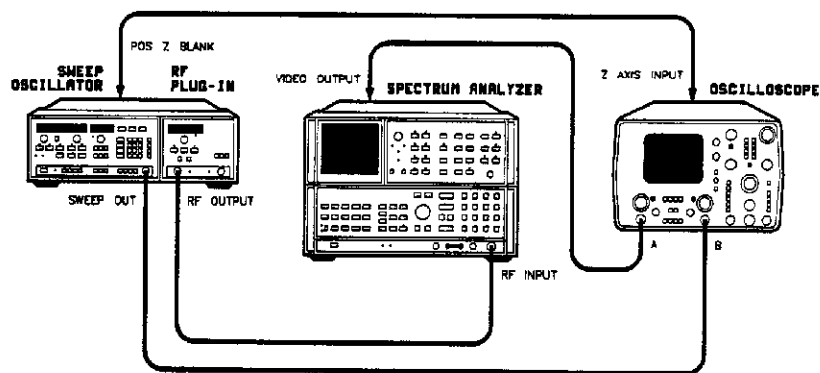

Figure 4-1. Frequency Range and Accuracy Tests Setup
1. Connect the equipment as shown in Figure 4-1. Press **[INSTR PRESET]** on both the sweep oscillator and the spectrum analyzer. Allow the equipment to warm up for one hour.